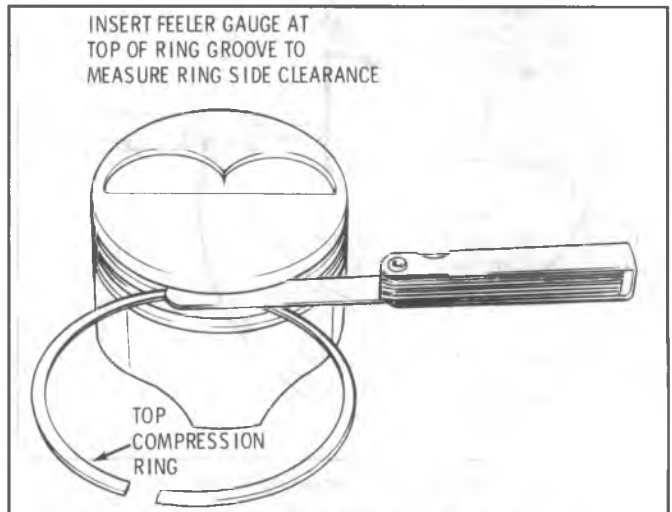

Fig. 6A6-74--Piston Ring Side Clearance
1. Install connecting rod bolt guide hose over rod bolt threads. (Fig. 6A6-76).